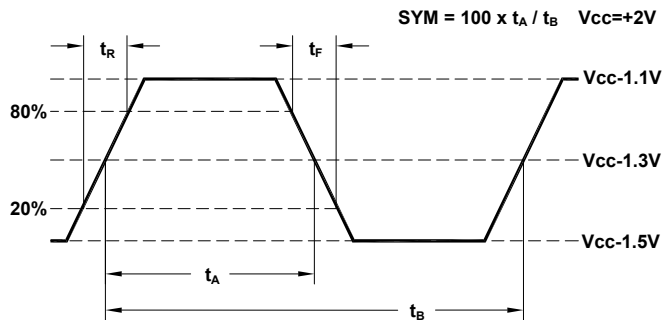

Figure 2. 10K LV-PECL Waveform
6. Parameters are described with waveform diagram below (Fig 2).